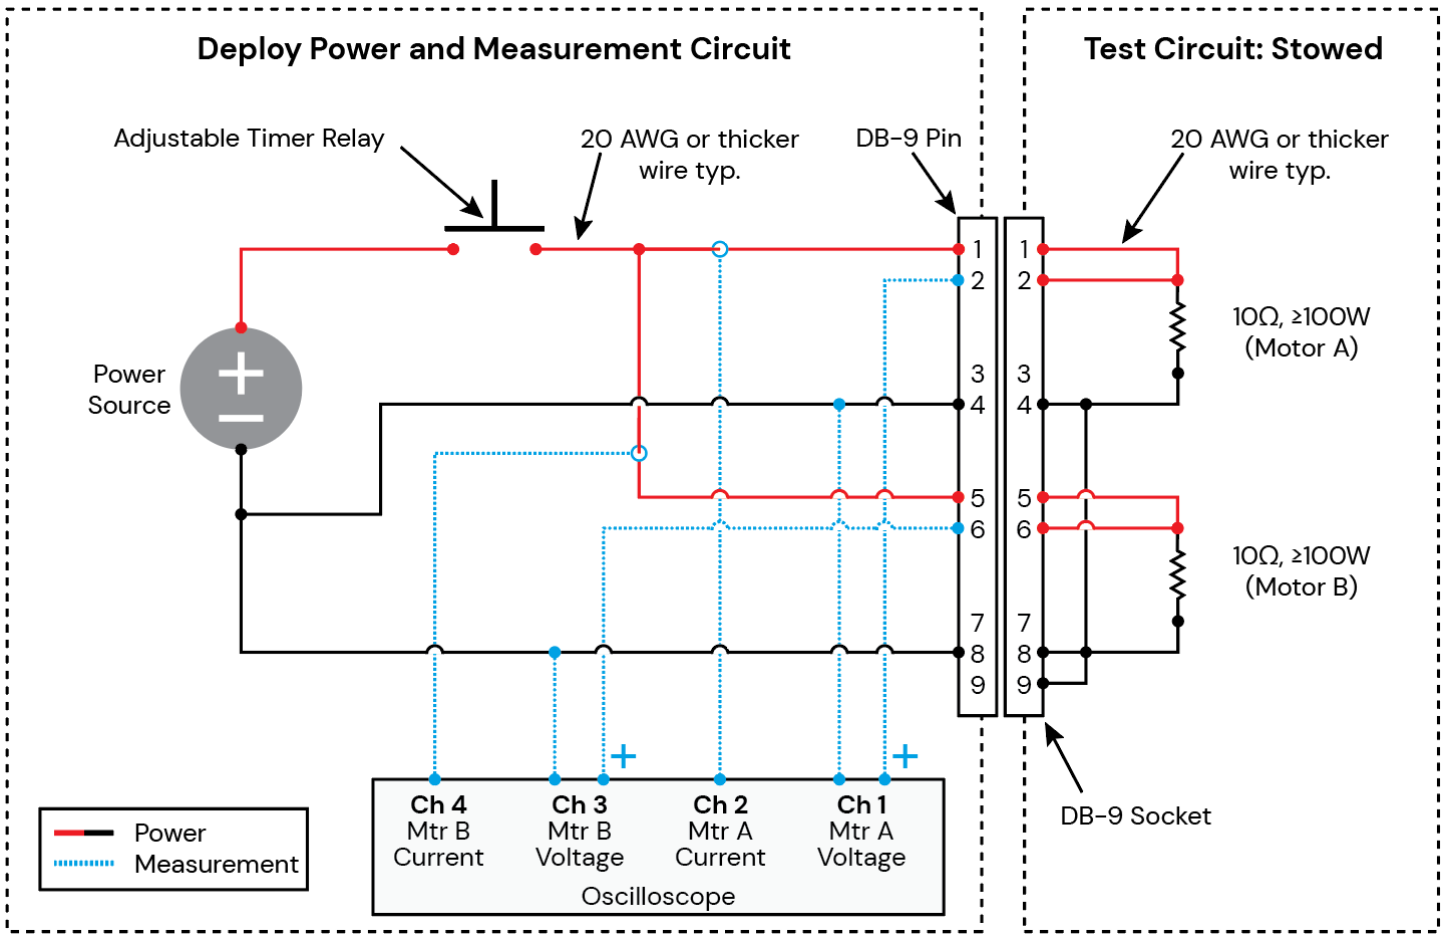

Figure 11-1: Deploy test circuit #1
11.1.2	Set up the Deploy Power and Measurement Circuit portion of Deploy Test Circuit #1 per Figure 11-1.
11.1.4	Set up the Test Circuit: Stowed per Figure 11-1.